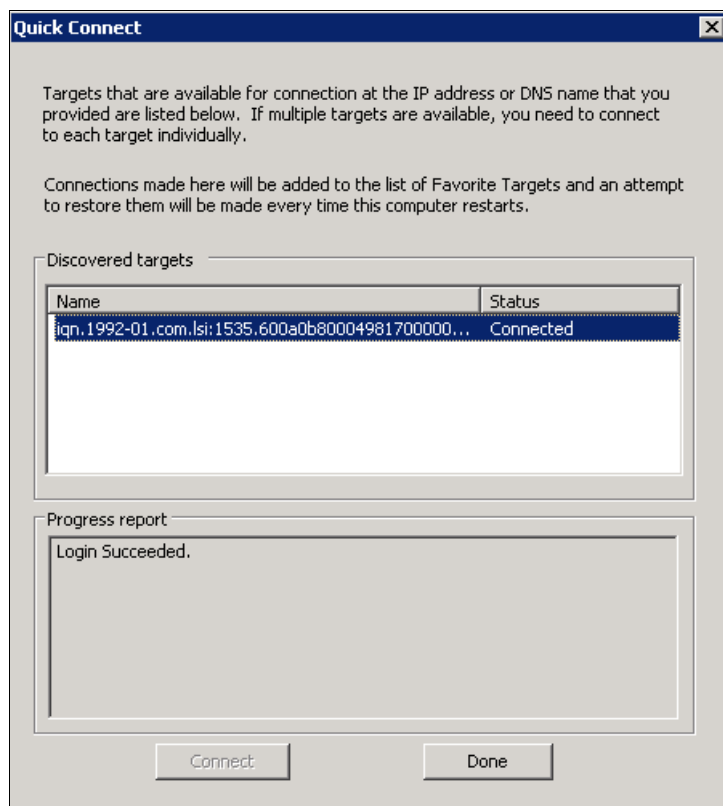

Figure 7-116 Discovered Targets information panel
5. Click the **Targets** tab to view the list of available targets that you can log on. In some cases, the status for the targets is shown as Inactive prior to logon (Figure 7-116).
8. In the iSCSI Initiator Properties window, verify that your target indicates Connected as shown in the Discovered targets area of the Quick Connect window (Figure 7-116).